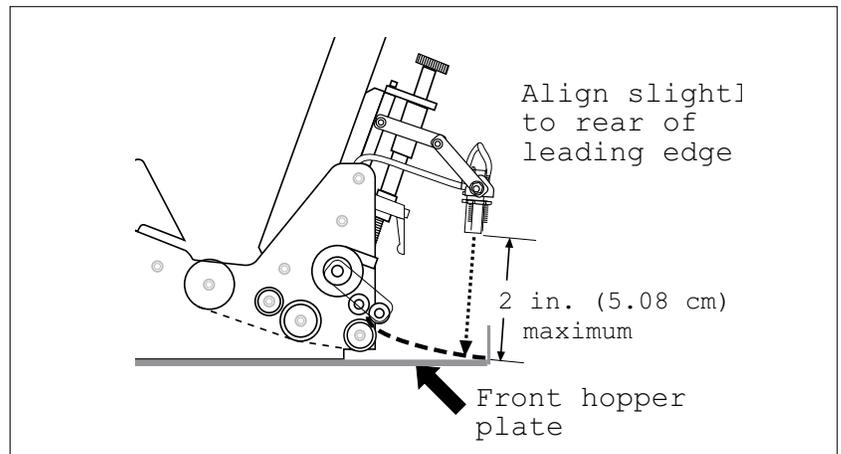

Figure 27. Optimum Alignment of Photo Sensor
5. After running several sheets through, turn the feeder power Off by pushing the circle (O) at the **Power** On/Off rocker switch. Adjust the photo sensor as needed to achieve the correct stopping point. *An optimum setting is to aim the barrel slightly to the rear of the leading edge (Figure 27).* This compensates for the slight over-travel of the motor after it turns Off, thus allowing the leading edge to stop in-line with the front hopper plate.